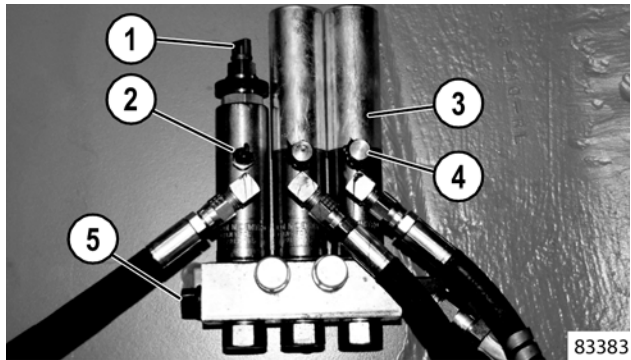

FIGURE 3-8. INJECTOR MANIFOLD
1. Remove injector manifold plug (5, Figure 3-8) from the injector manifold. Always start with the injector manifold that is closest to the pump. The last grease line to be purged should be the main grease line to the rear axle (longest grease line).
2. Disconnect main supply line (2, Figure 3-8). Connect an external grease supply to the main supply line.
3. Pump grease into main supply line (2) until grease appears at the injector manifold plug.
2. Remove injector grease zerk cap (4, Figure 3-8) from each injector and connect an external grease supply to injector grease zerk (2) on the injector.
6. After all grease lines are primed, actuate manual override valve (3, Figure 3-8) to cycle the automatic lubrication pump a few times to lubricate the components.